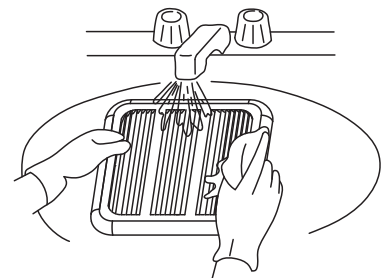

Fig. 7
2. Wash and clean the grille in a sink and dry with a cloth (Fig. 7).